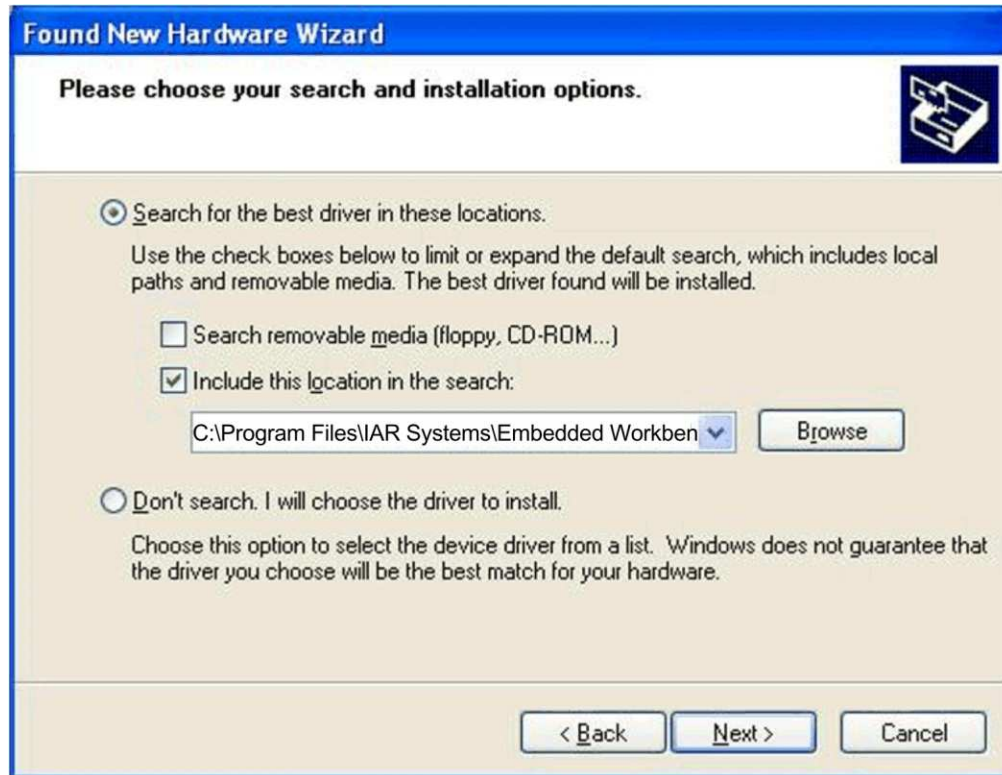

Figure C-2. Windows XP Driver Location Selection Folder
4. Browse to the folder where the driver information files are located (see Figure C-2).